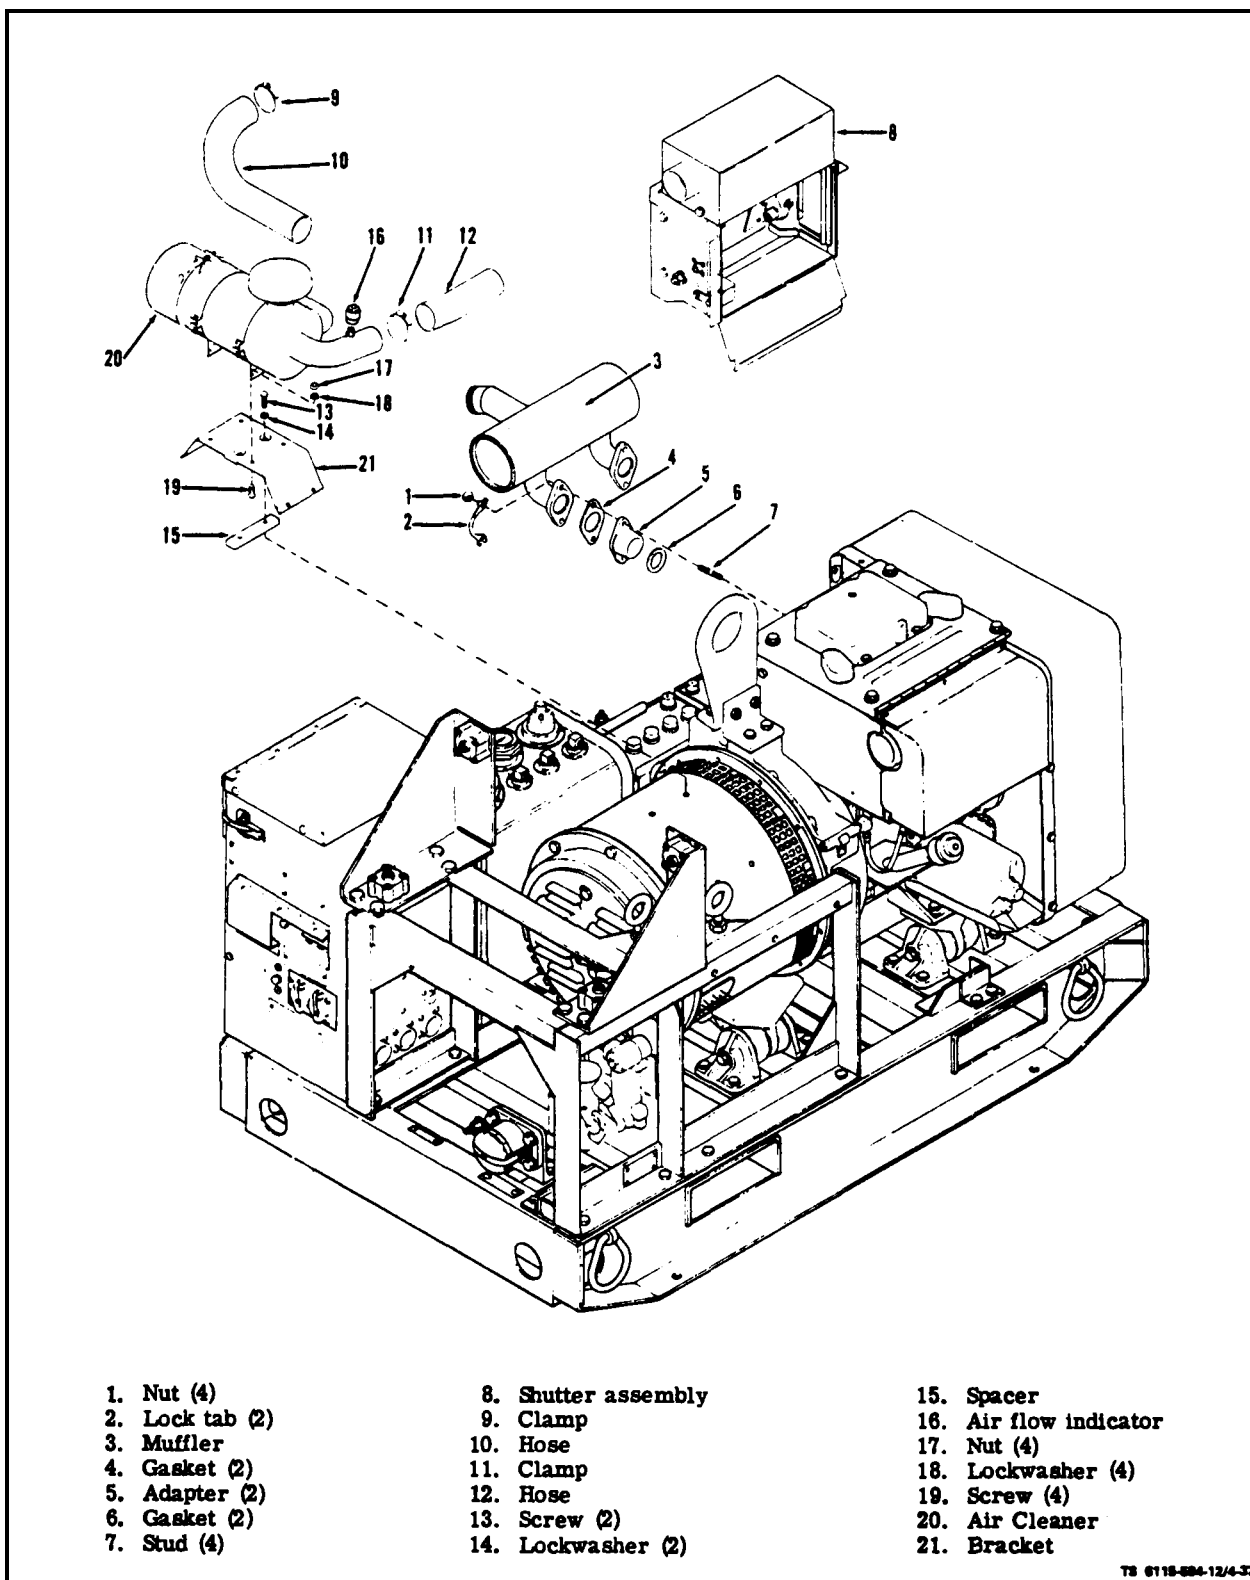

Figure 4-37. Exhaust Muffler and Air Cleaner Assemblies
a. Inspect (see figure 4-37). If engine exhaust is noisy or if exhaust gases are detected from shutter assembly, indications are that muffler (3) or gaskets (4) and (6) may be defective.
b. Remove. Remove shutter assembly as outlined in paragraph 4-17. Bend lock tabs (2) down and remove four nuts (1) holding muffler (3) in place. Remove lock tabs (2), mufflers (3), muffler gaskets (4), adapters (5) and adapter gaskets (6) from each cylinder head.
c. Replace. Place gaskets (6), adapters (5) in place on each cylinder head. Slide new muffler gaskets (4), muffler (3), and lock tabs (2) over studs (7) in cylinder head and secure to cylinder head with nuts (1).
a. Inspect (see figure 4-37). On ASK equipped generators, open air intake door and air cleaner door.
(1) Air Cleaner Assembly. Check air cleaner assembly for corrosion, broken or dented components or split hoses.
(1) Air Cleaner Assembly. Weld and straighten air cleaner housing as necessary.
(2) Mounting Bracket (see figure 4-37). If bracket (21) is split or bent, weld and straighten bracket as necessary. After completing repairs, check that bracket securely attaches air cleaner to set.
(1) Air Cleaner Assembly (see figure 4-37). Install air cleaner (20) on bracket (21) and secure with screws (19), lockwashers (18) and nuts (17). Install airflow indicator (16) on air cleaner.
(2) Install air cleaner, bracket and spacers (15) on generator housing and secure with lockwashers (14) and screws (13). Install hoses (10 and 12) and secure with clamps (9) and (11).